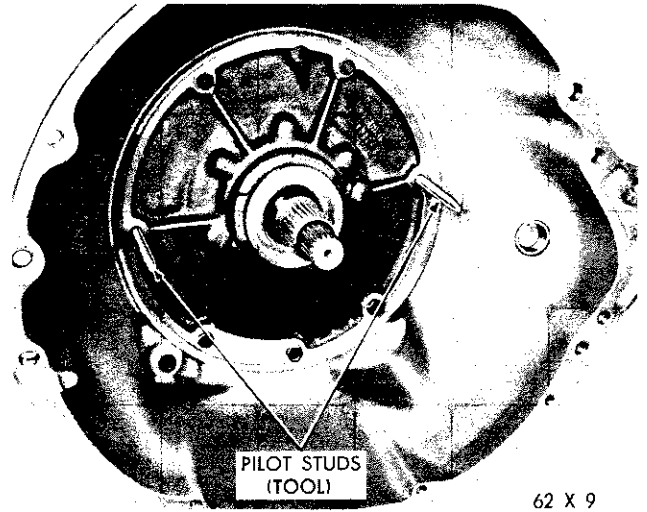

Fig. 88—Installing Front Pump and Reaction Shaft Support Assembly
(1) Screw two pilot studs, Tool C-3288 in the front oil pump opening in the case (Fig. 88). Install a new gasket over the pilot studs.
(2) Place a new rubber seal ring in the groove on the outer flange of the oil pump housing. Make sure the seal ring is not twisted. Coat the seal ring with grease for easy installation.
(3) Install the pump assembly in the case, tap it lightly with a soft mallet if necessary. Place the deflector over the vent opening and install four pump body bolts. Remove the pilot studs, install remaining